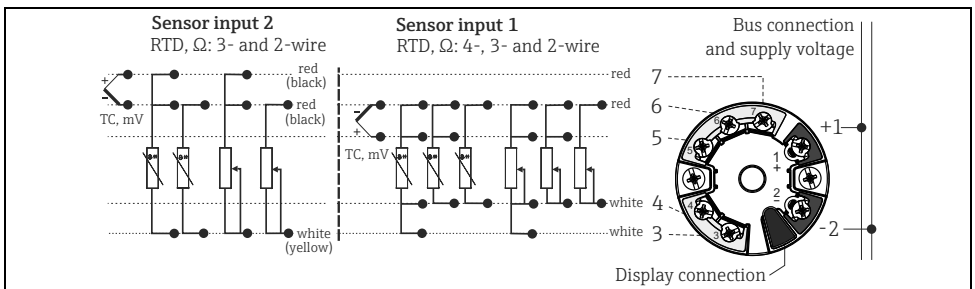

Fig. 5: Wiring the head transmitter
3. Connect the cables as shown in Fig. 5. If the head transmitter is fitted with spring terminals, please pay particular attention to → Page 34.